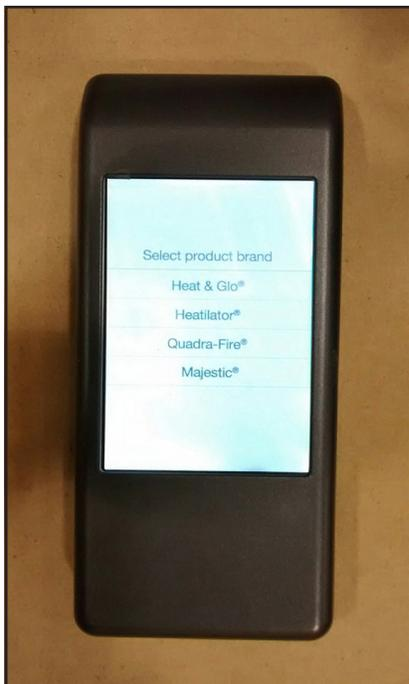

Figure 9. IFT-RC400 Branding Screen
4. Select your choice of product brand from the list on the IFT-RC400 screen. See Figure 9.